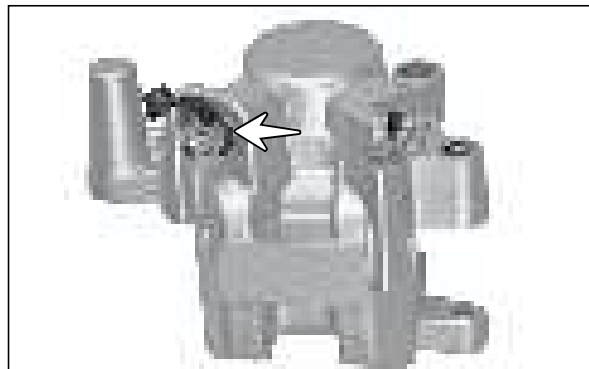

Fig. 6.127
- Unplug cap bleeder and remove bleeder screw. (Fig. 6.127)